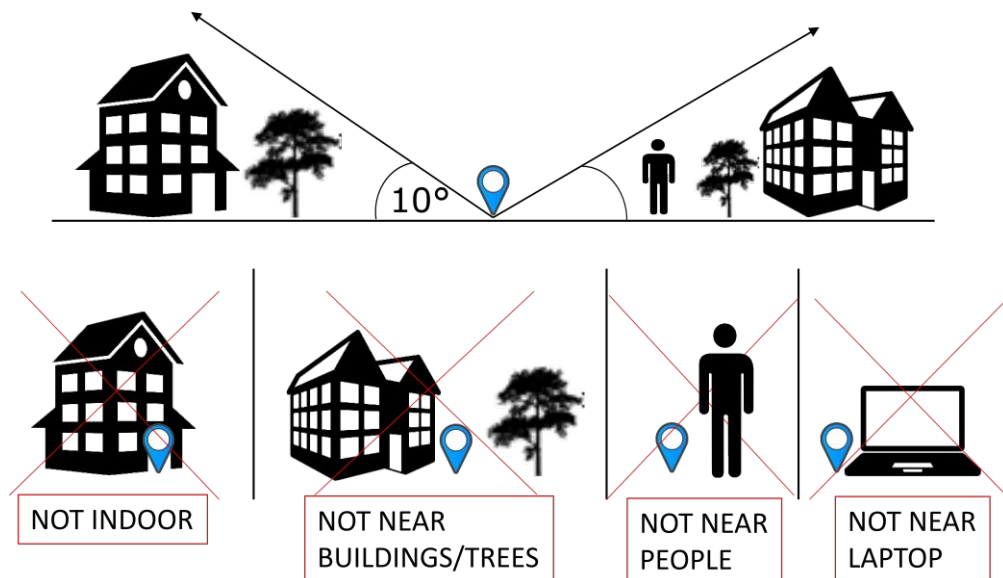

Figure 33: Reference Station placement guideline
- Please connect the GNSS antenna with the marked SMA connector to the Reference Station. The GNSS antenna must stay outside with open-sky environment (see Figure 33).
**Recommendation:** The GNSS antenna should be fixed mounted on position outside with best possible satellite visibility (see Figure 33). A recommended place would be the roof of a high building or similar places. The RTK correction data of the Reference Station are highly accurate for rovers within 15 km distance from rover (MS-RTK module) to Reference Station. A common way is to fix the Reference Station on a location where the user can calibrate the position once a time and don't change the position again.